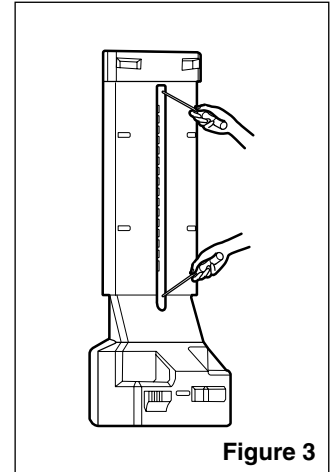

Figure 3
1. Remove the upper and lower Caps by using a flat screwdriver, and remove 2 screws. (Figure 3)